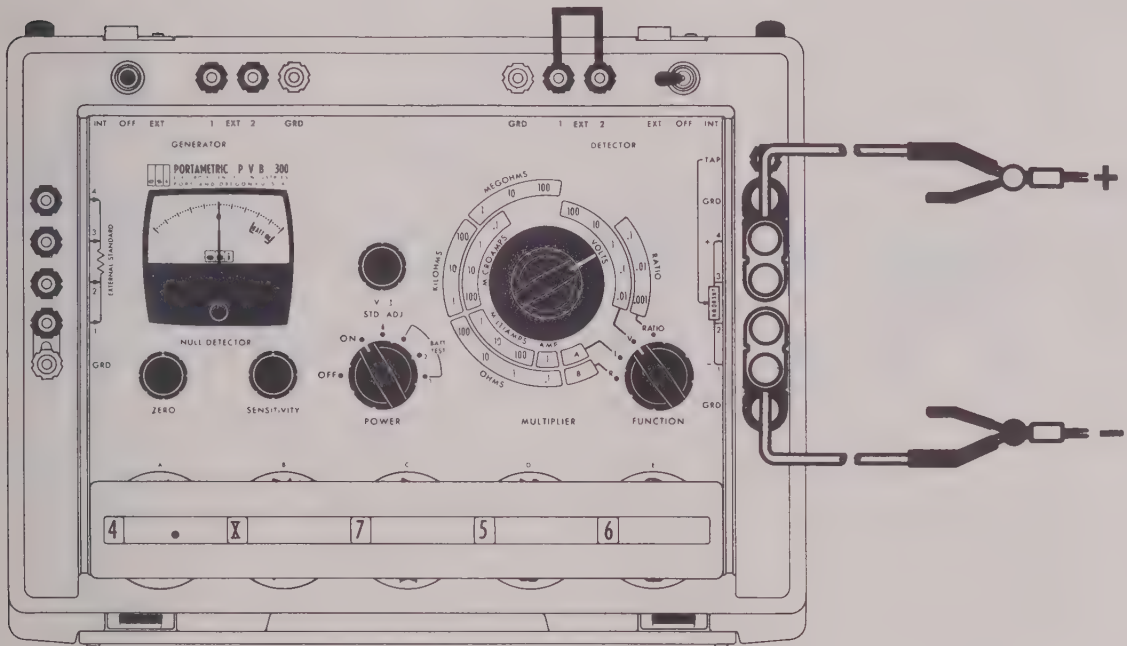

Figure 2.5 - Standard Voltage Source
- 11) Connect a test lead between EXT DETECTOR terminals 1 and 2. The output voltage positive terminal is UNKNOWN terminal 4, and the negative terminal is UNKNOWN terminal 1. Connect outputs as required, KELVIN KLIPS can be used. See Figure 2.5 for connections.